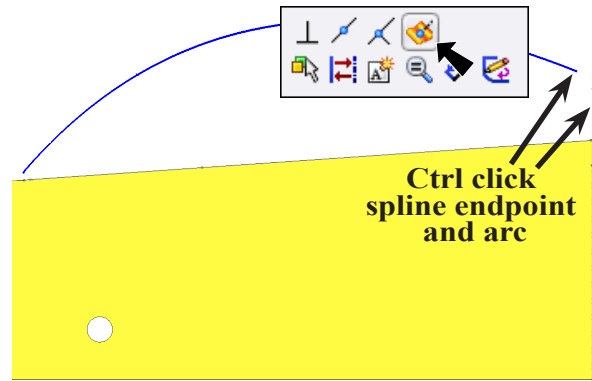
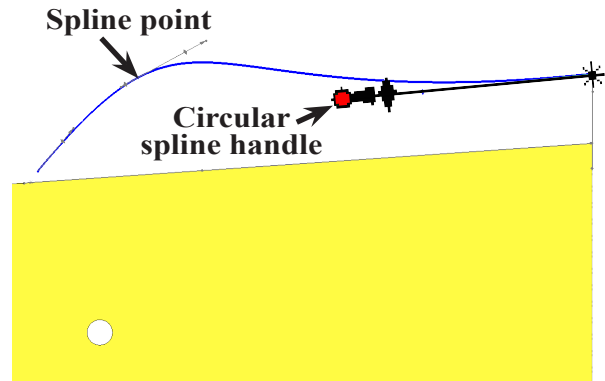

Fig. 61
Fig. 62
Step 7. **Ctrl click right endpoint of spline and arc in rear sketch, Fig. 61.** To Ctrl click, click endpoint, then hold down Ctrl key and arc.
Step 8. Click **Make Pierce**  on the Content menu, **Fig. 61** and **Fig. 62.** Make Pierce adds a Pierce relation between guide curve and rear sketch.
Step 9. Click the spline to select it. Grab the Circular Spline handle (small gray dot) at endpoint, **Fig. 62** and pull up to adjust spline. Also, you can move the Spline point to adjust the spline.